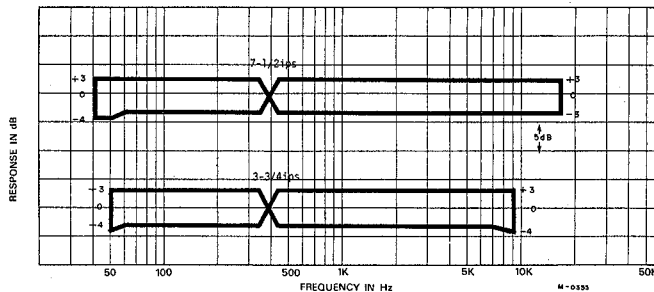

Fig. 7-4 Frequency Response Limits -Playback-
3. Compare the readings obtained on the level meter with the response limits given in Fig. 7-4.